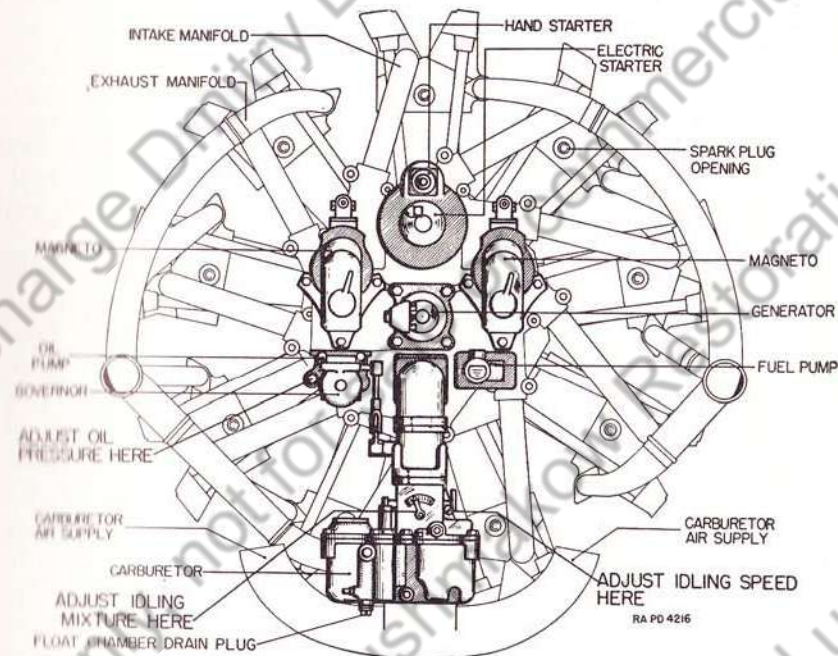

FIGURE 22.—Engine, showing accessories, adjustment of carburetor, and oil pressure.
42. **General description** (fig. 22).—*a.* The Wright Whirlwind R-975-EC2, a single row, air-cooled, radial, aviation type engine, is used.
*b.* The two magnetos, starter, generator, and fuel pump are mounted on the rear face of the rear crankcase section (fig. 22). The carburetor is mounted on the extreme lower end of the rear section. In this section the flywheel end of the engine will be referred to as the "front" of the engine and the other end will be referred to as the "rear" of the engine. The terms "right" and "left" are used with reference to the engine as viewed from the rear. Horizontal and vertical positions of the engine will be referred to with respect
46. **Oil pumps (fig. 22).**—*a.* The supply of oil in the engine crankcase is maintained by oil pumps which draw oil from the engine oil tanks located at the bulkhead between the engine and fighting compartments, or which circulate the oil within the engine itself. These are gear type pumps which are supported on the lower left side of the rear crankcase section in the case of the main pump, and in the nose section in the case of the other scavenge pump. The main pump is divided into two sections: a separate pressure pump and a scavenge pump. This scavenge pump returns the oil from the upper section of the sump to the oil filter. The scavenge pump located in the nose section removes oil from the lower section of the sump. Both return lines from the scavenge pumps join together before running into the Cuno filter. The main oil pump incorporates a pressure relief valve which comprises a spring-loaded ball that rises when the desired pressure is reached and allows the excess oil to be drained into the inlet side of the pump. Pressure regulation is accomplished by turning the adjusting screw clockwise to raise the pressure and counterclockwise to lower the pressure which raises or lowers the tension in the spring (see fig. 22). The oil pressure should be between 50 and 80 pounds per square inch in normal operation.
- (1) Remove rear top plate.
- (2) Remove mufflers and elbows by removing 4 bolts on each mounting elbow. The muffler can be disconnected from the engine exhaust manifold by unclamping the manifold connection and pushing the pipe on the manifold side up into the muffler in order to clear the two ends (see fig. 22).
- (1) Remove the terminal guard and disconnect leads.
- (2) All leads should be marked to identify their proper position for replacement.
- (3) Remove the four nuts holding the generator to the accessory case.
- (4) Loosen the generator retaining bracket nut and slide the generator to the rear.
**54. Fuel pump** (fig. 22).—*a. Description.*—The fuel pump is mounted on the engine accessory case to the right of the generator.
- (1) Close fuel shut-off valves. The two main valves are located in bulkhead below oil tank.
- (2) Remove cap screws and open rear doors to engine compartment.
- (3) Disconnect fuel lines attached to pump.
- (4) Remove locking wires and nuts holding the pump to the accessory case.
- (5) Remove pump.
- (6) To replace pump reverse the procedure.
**55. Carburetor** (fig. 22).—*a. Description.*—The carburetor is attached directly to the intake manifold in the bottom of the engine crankcase.